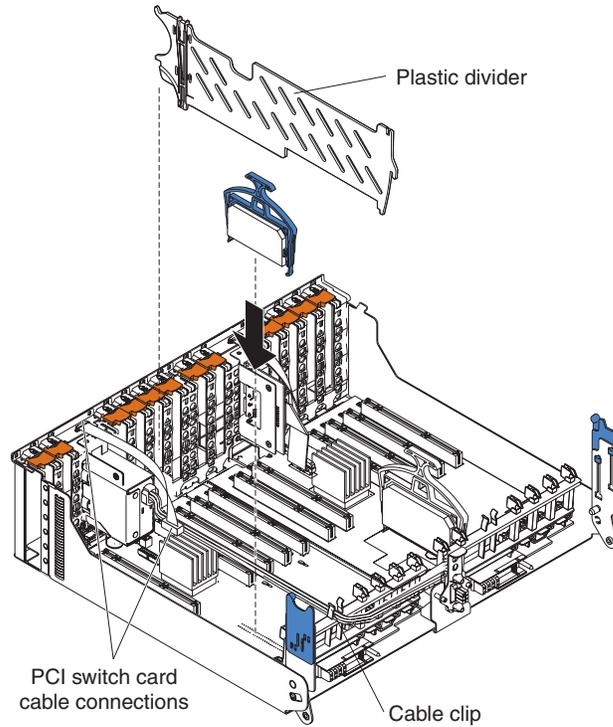

Figure 21. Installing a PCI-X expansion board ribbon power cables
9. Using Figure 21 on page 39 as a reference, install the PCI-X expansion assembly ribbon power cable to the connectors. The connectors for ribbon power cables are different and can be connected in only one way.